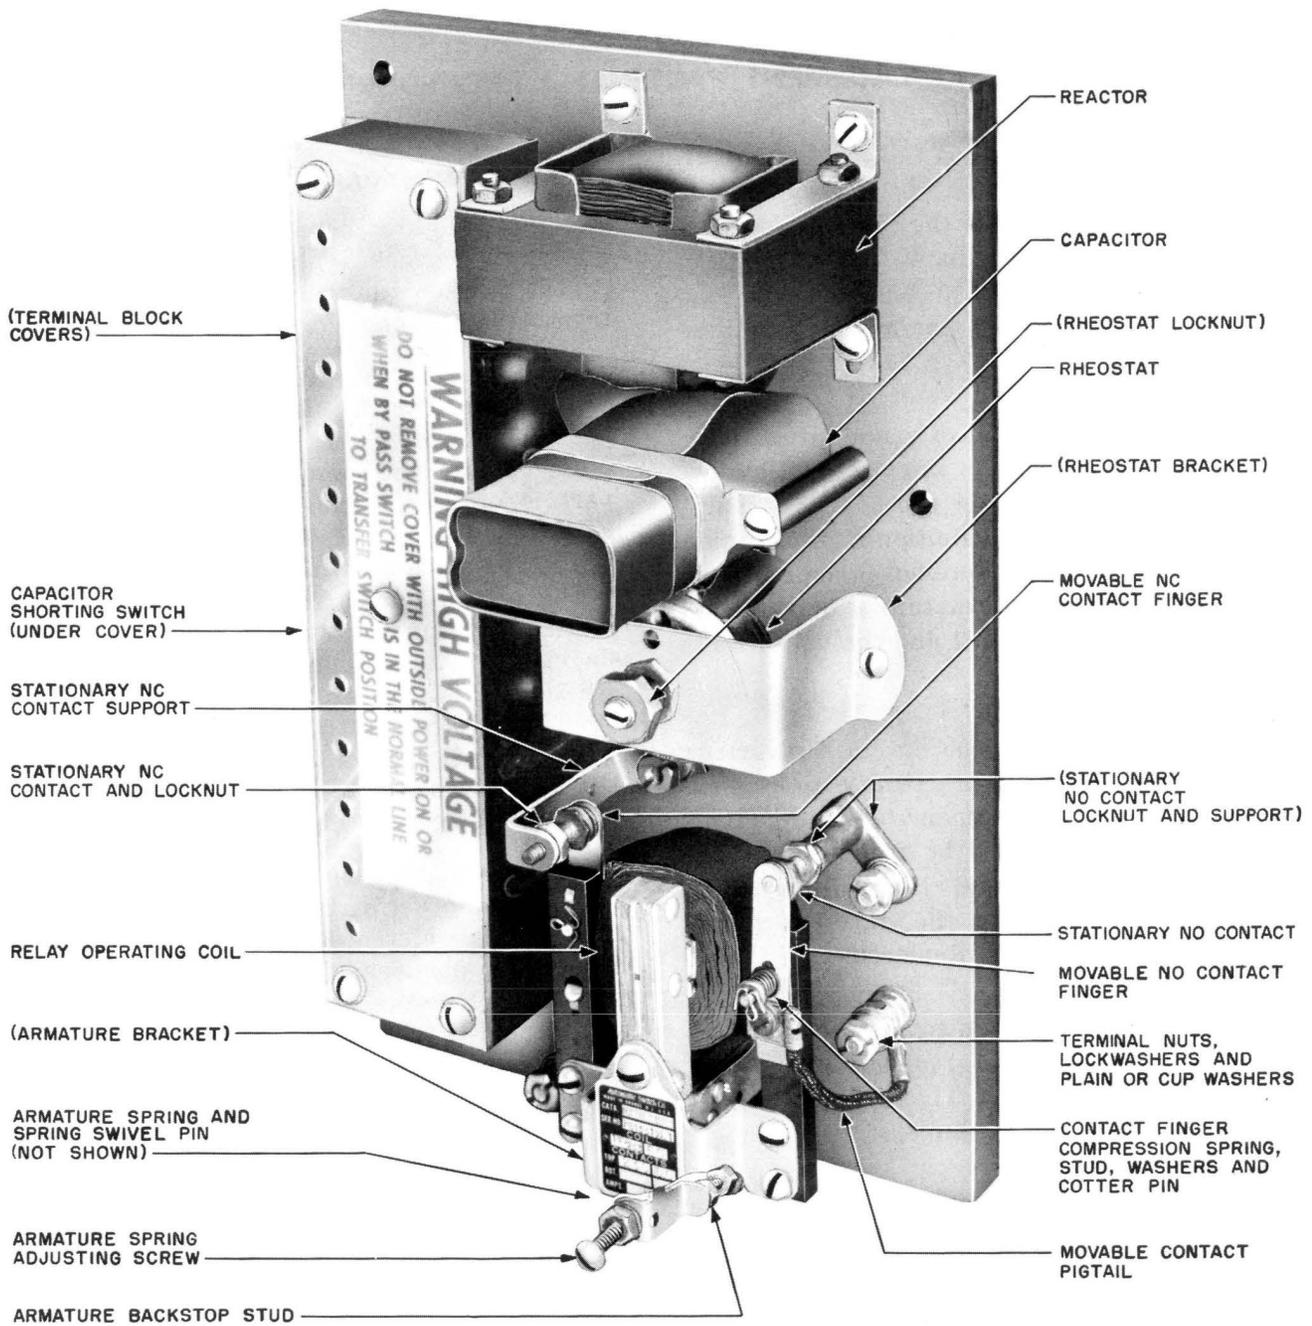

Fig. 1 - KS-15519 Relay
1.02 This section is reissued to add information on replacing pigtailed contacts associated with movable contacts; to remove the procedure for maintaining service; to add a definition of information enclosed in parentheses; to remove the procedure for replacing the relay armature and frame assembly; and to revise Fig. 1 and the list of tools and materials.